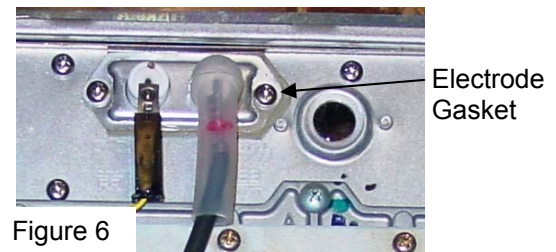

Figure 6
18. Replace the electrode gasket. (Figure 6)